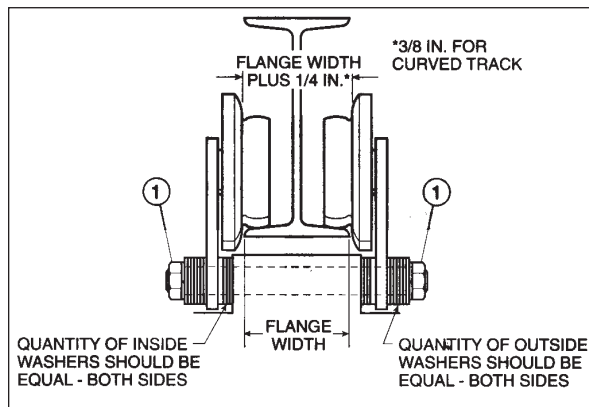

Figure 2-1. Sectional View of Trolley showing proper wheel and washer spacing
- b. **Trolley Mounted** hoists are attached to moveable trolleys. If the hoist is mounted on an existing trolley, a qualified person shall determine that the trolley and its supporting structure are adequate to support the rated load and weight of the hoist. Hoist/trolley units may be shipped from the factory with trolley packaged separately. If the trolley can be installed directly over the end of the supporting beam, assemble trolley to hoist. Be certain that the spacing between wheel flanges, after assembly, is 1/4" greater than exact width of beam flange. (See Figure 2-1 below and instruction sheet furnished with trolley.) Using proper equipment, carefully lift trolley and hoist and install on end of beam.
For trolleys which are to be mounted along the span of a beam not having open ends, measure exact width of beam flange and assemble trolley to hoist so that spacing between wheel flanges is 1/4" (see Figure 2-1) greater than beam width (3/8" if beam has curves). This is accomplished by rearranging the spacer washers on the bolts connecting trolley side plates to hoist mounting lug. If trolley is shipped separate from hoist, see instruction sheets furnished with trolley for orientation and installation.
When proper spacing has been determined, loosen mounting nuts (item 1, Figure 2-1) to allow trolley wheels to spread far enough to pass over edges of beam flange. (Some installations may require complete removal of one trolley side plate.) Using adequate equipment, carefully lift the hoist and